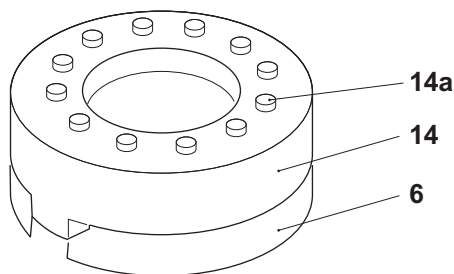

Fig. 10
- > Ensure that the SDS clamping lever (1) is closed and place the product upside down on a flat, stable surface.
- > Place the tool holder adaptor (14) onto SDS tool holder (6) and ensure they are engaged (Fig. 10).